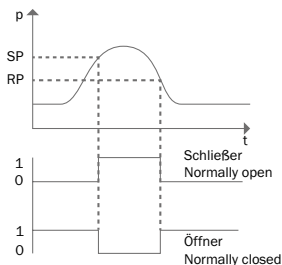

Figure 2: Hysteresis function in the event of excess pressure
In the event of rising system pressure, the output switches upon reaching the appropriate switching point (SP). If the pressure drops again, the output does not switch back until the reset point (RP) has been reached. If the applied pressure fluctuates around the switching point set on the pressure switch, the hysteresis keeps the switching state of the outputs stable (see Figure 2).